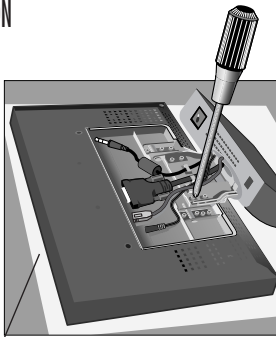

Figure R.2
3. Place monitor face down on a non-abrasive surface (Figure R.2).
4. Remove the 4 screws connecting the monitor to the stand and lift off the stand assembly (Figure R.2). The monitor is now ready for mounting in an alternate manner.